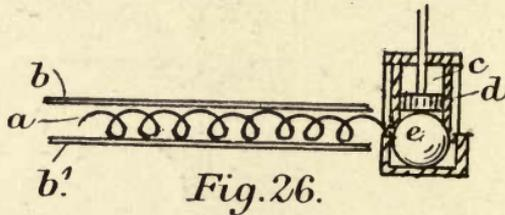

Fig. 26.
M. Victor Galliene has experimented in this direction, as shown by the sectional view, Fig. 26, in which a is a spiral elastic tube representing a trachea, and terminating in an elastic ball or air reservoir e . This is rapidly expanded and contracted by the vibration of a piston d within a cylinder c . Two elastic membranes b, b' are stitched or sewn together in seams, so as to enclose the several trachea extending radially from the root of the wing, and operated alternately in pairs. Finely tempered steel wires of tapering form are used to impart the necessary rigidity to the structure. In the experiment there were eight cylinders, each operating the corresponding artificial nervure on opposite wings, four nervures to the anterior wings and four to the posterior.